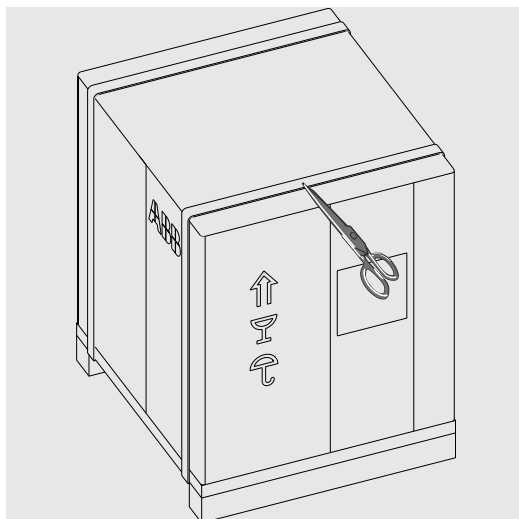
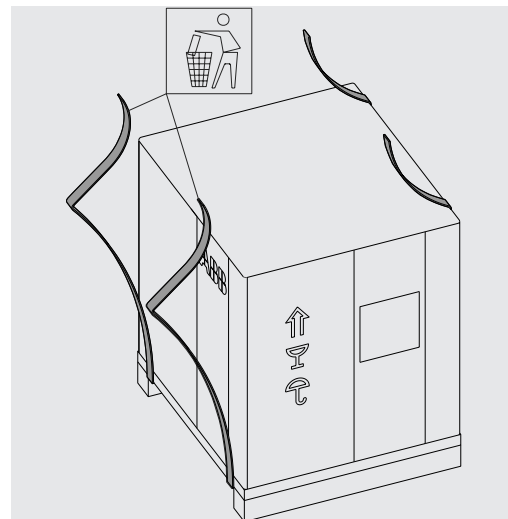

Figure 6
Figure 7
1. Cut the bands that wrap the packing box. See Figure 6 and Figure 7.